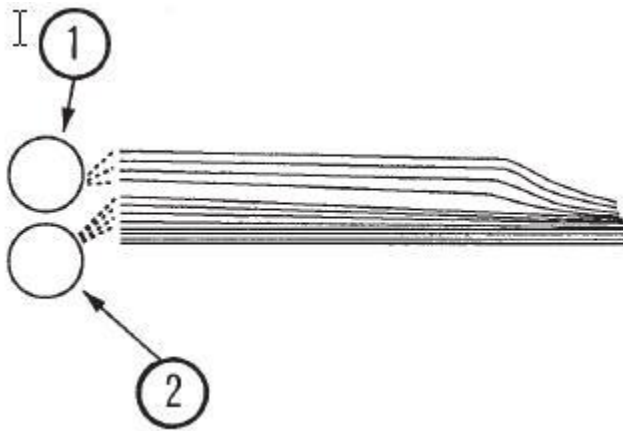
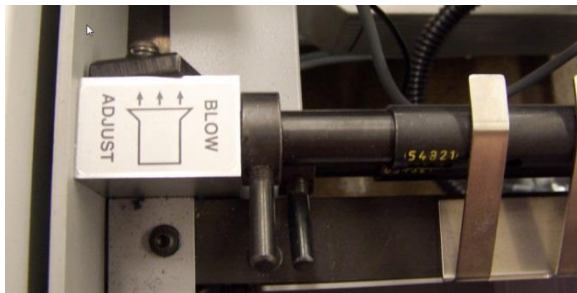
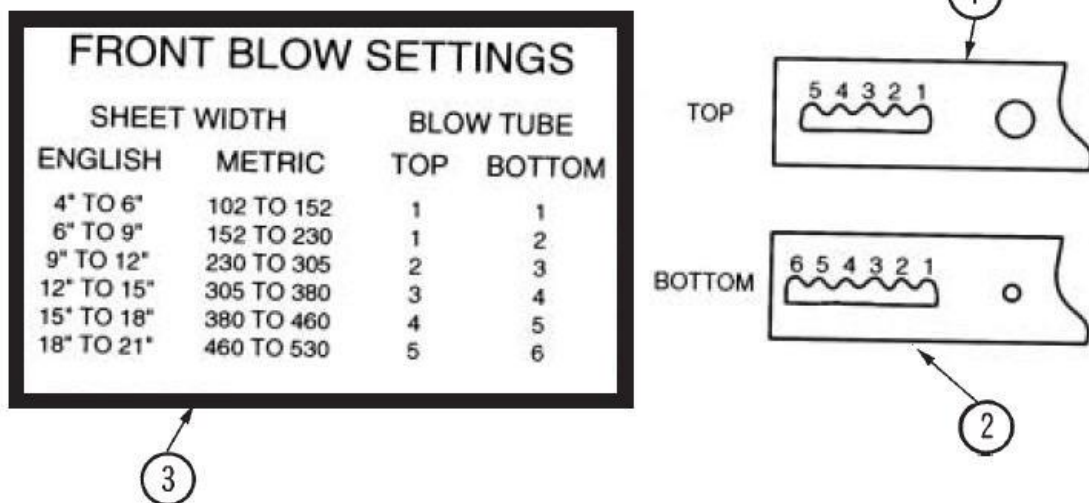

Figure 38
Figure 39
Figure 40
3. Use the two blow tube angle levers and the air bleed off valve cover to adjust the air to lift the paper on the top of the stack. The top four to five sheets are to be lifted by the top blow tube. The bottom blow tube should lift approximately ½" of paper underneath the first four to five sheets. The bottom blow tube provides separation to send sheets up to the top to be fed. See Figure 38 and Figure 39.
5. First determine what sheet width is to be run. Then use the FRONT BLOW SETTINGS CHART (Figure 40) to set the detents settings for each tube. The numbers on the top detent can be seen in Figure 39.